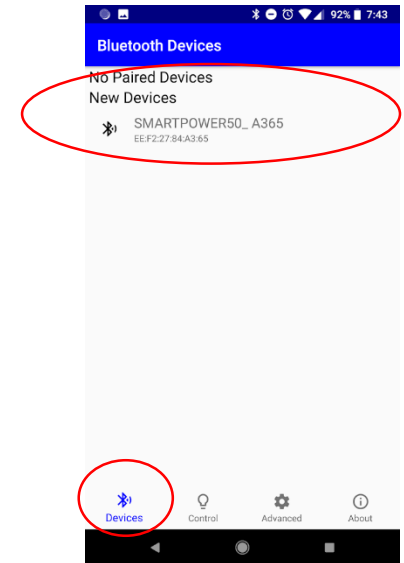

Figure 1
- Open the app. You will be taken to the Devices tab where you will be shown a list of devices available. See Figure 1.